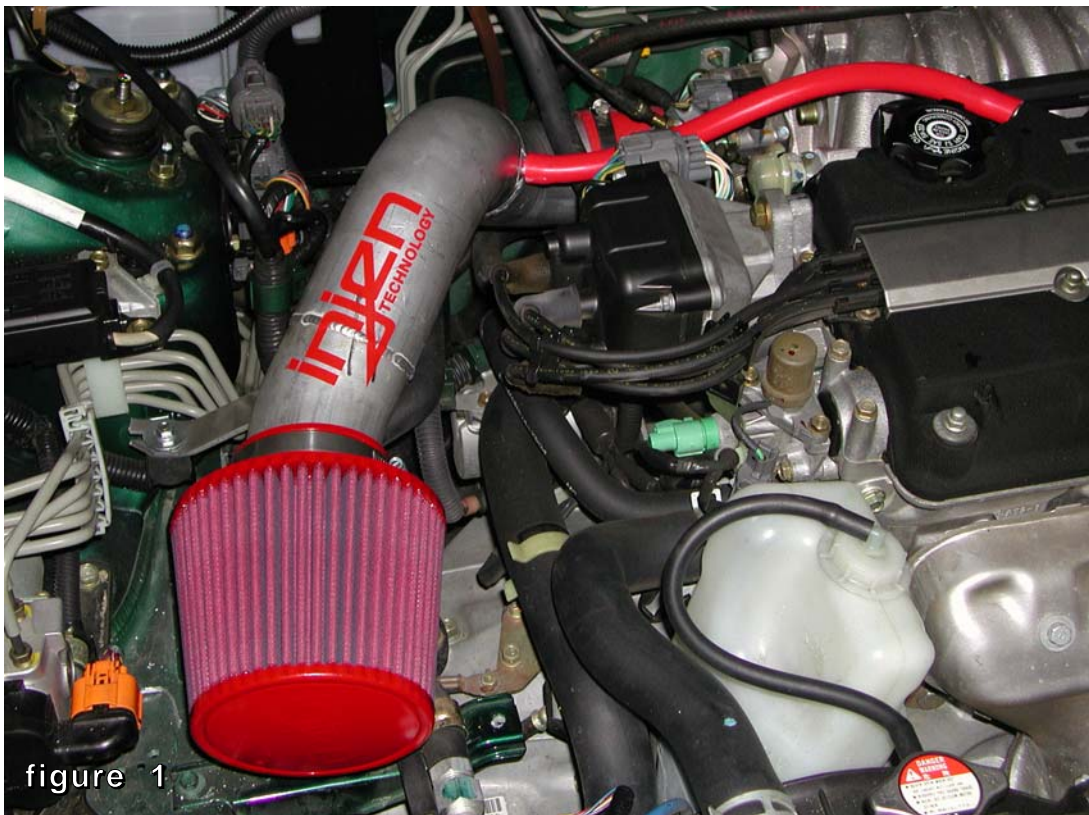

figure 1
6. Connect the 13"-10mm hose onto the valve cover port and press the other end over the 1/2" nipple on the intake. See fig. 1
7. Place the 3" Injen filter over the end of the intake and fasten the clamp on the filter. See fig. 1
8. Align the entire intake system for best possible fit. Once proper clearance has been made continue to tighten all nuts, bolts and clamps. See fig. 1